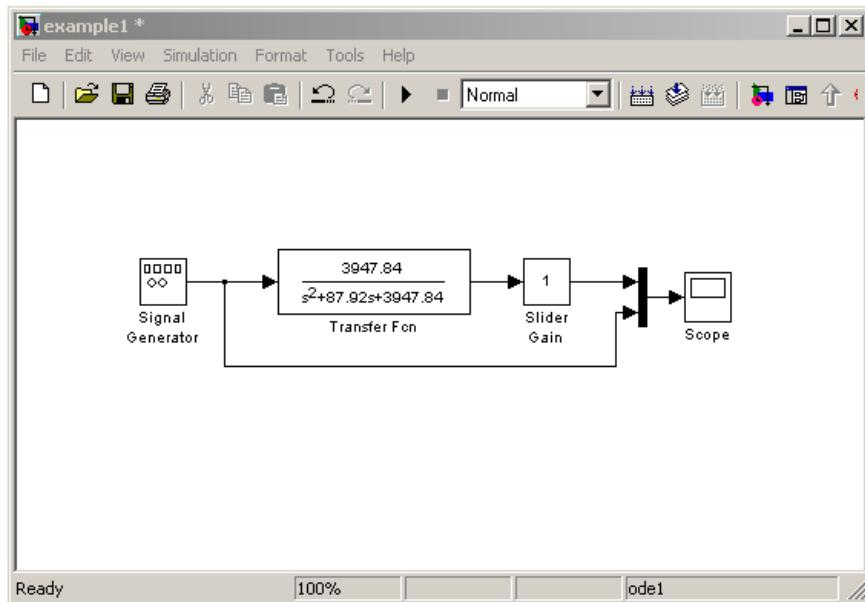

Figure 2.2: Simulink Model of 2nd Order System
2. Next, drag a **Signal Generator** block from *Sources* library, a **Slider Gain** from *Math* library and a **Scope** from *Sinks* library. Connect all blocks as in Fig. 2.2.